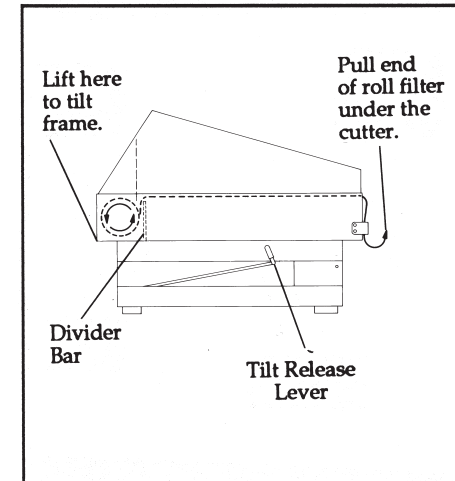

Fig. 1
2. Remove the roll of prefilter material from its packing, and thread it through the unit as shown in Fig. 1.
4. Set the hood on top of the unit as in Fig. 1, with the back flap of the hood behind the divider bar and prefilter sheet.